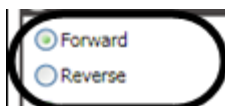

Figure 63
4. Select a direction, either **Forward** or **Reverse** (Figure 63).